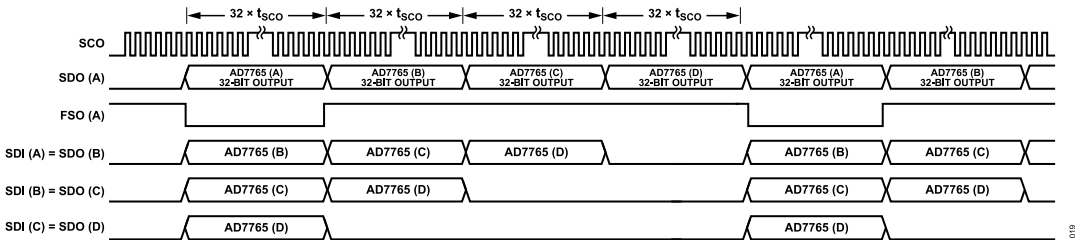

Figure 41. Daisy-Chain Mode, Data Read Timing Diagram (for the Daisy-Chain Configuration Shown in Figure 40)
shown in Figure 41, the first conversion result is output from the device labeled AD7765 (A). This 32-bit conversion result is then followed by the conversion results from the AD7765 (B), AD7765 (C), and AD7765 (D) devices with all conversion results output in an MSB-first sequence. The signals output from the daisy chain are the stream of conversion results from the SDO pin of AD7765 (A) and the FSO signal output by the first device in the chain, AD7765 (A).